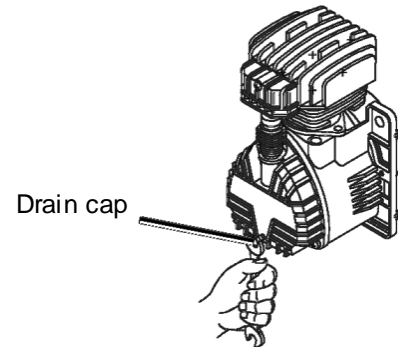

Fig. 10
- (1) Within the first 50 hours of operation, completely replace the oil of the pumping element. Unfasten the oil drain cap on the casing cover, drain all the oil, and screw the cap back on (Refer to Fig.1 and to Fig.10).